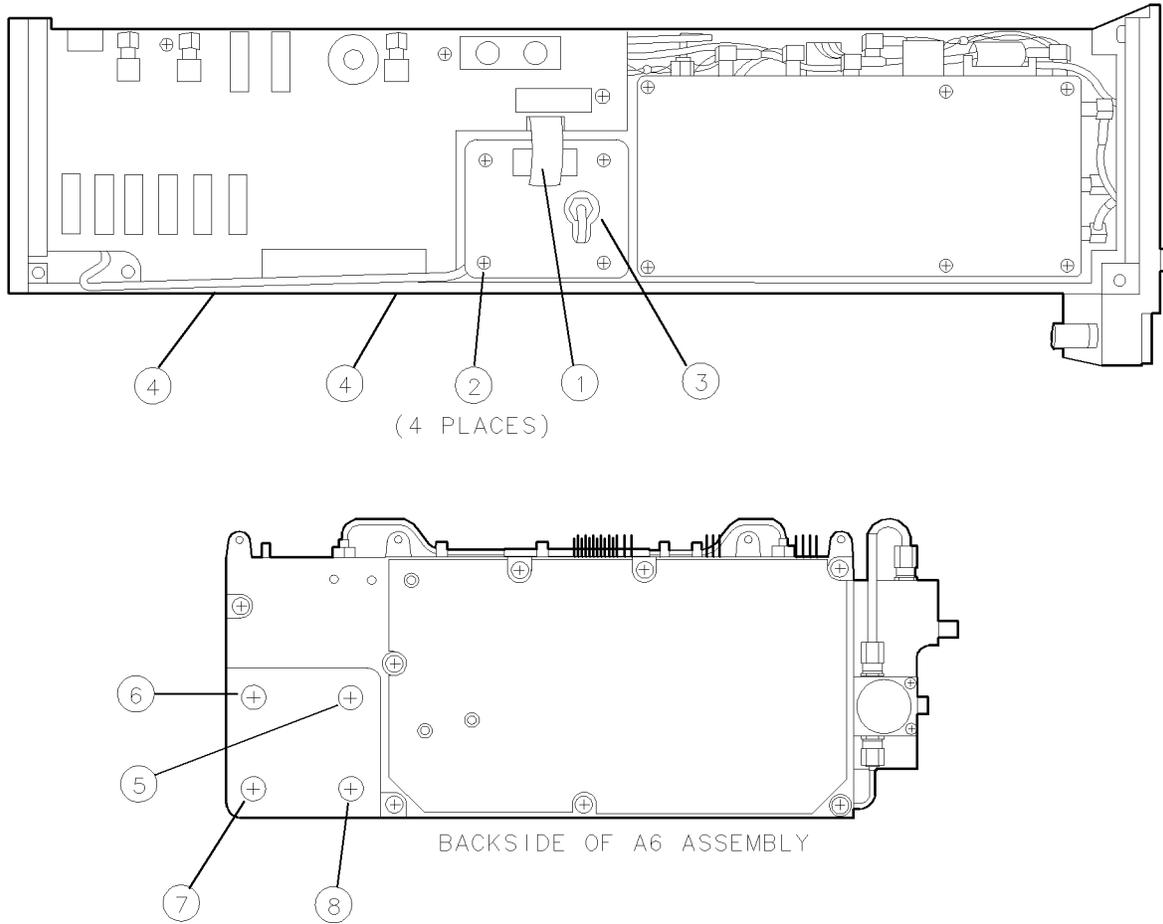

Figure 9-12. A6A5 YTO Removal/Replacement
2. Remove ribbon cable W15 ① as illustrated in Figure 9-12. Remove the four screws ② securing the A6A5 YTO cover and remove the cover.
3. Disconnect A6W16 ③ at the A6A5 YTO and free the cable from the two motherboard clips ④. Gently swing the cable down and away from the A6A5 YTO.
4. Remove the four screws and nylon washers ⑤, ⑥, ⑦, and ⑧ that secure the A6A5 YTO to the casting. The screws are located on the back side of the A6 YTO phase-lock loop.
3. Insert the A6A5 YTO into the A6 YTO phase-lock loop casting. Orient the assembly as shown in See Figure 9-12. The RF SMA connector should be located toward the front of the module and the ribbon cable connector toward the top of the module.
5. Use the four screws ⑤, ⑥, ⑦, and ⑧ and nylon washers to secure the A6A5 YTO to the casting. Do not tighten the four screws.
6. To seat the A6A5 YTO in the casting, turn the module so that the A6A5 YTO hangs from its four securing screws. Tighten the four securing screws in the following order: ⑤, ⑦, ⑥, and ⑧. Torque screws to 9 inch-pounds.
7. Reconnect A6W16 ③ to the A6A5 YTO. Secure the cable to the two motherboard clips ④. Torque connector to 10 inch-pounds.
8. Replace the A6A5 YTO cover with four screws ②. Torque screws to 6 inch-pounds.
9. Replace ribbon cable W15 ①. (Only one end of this cable is properly keyed to connect to the A6A5 YTO.)